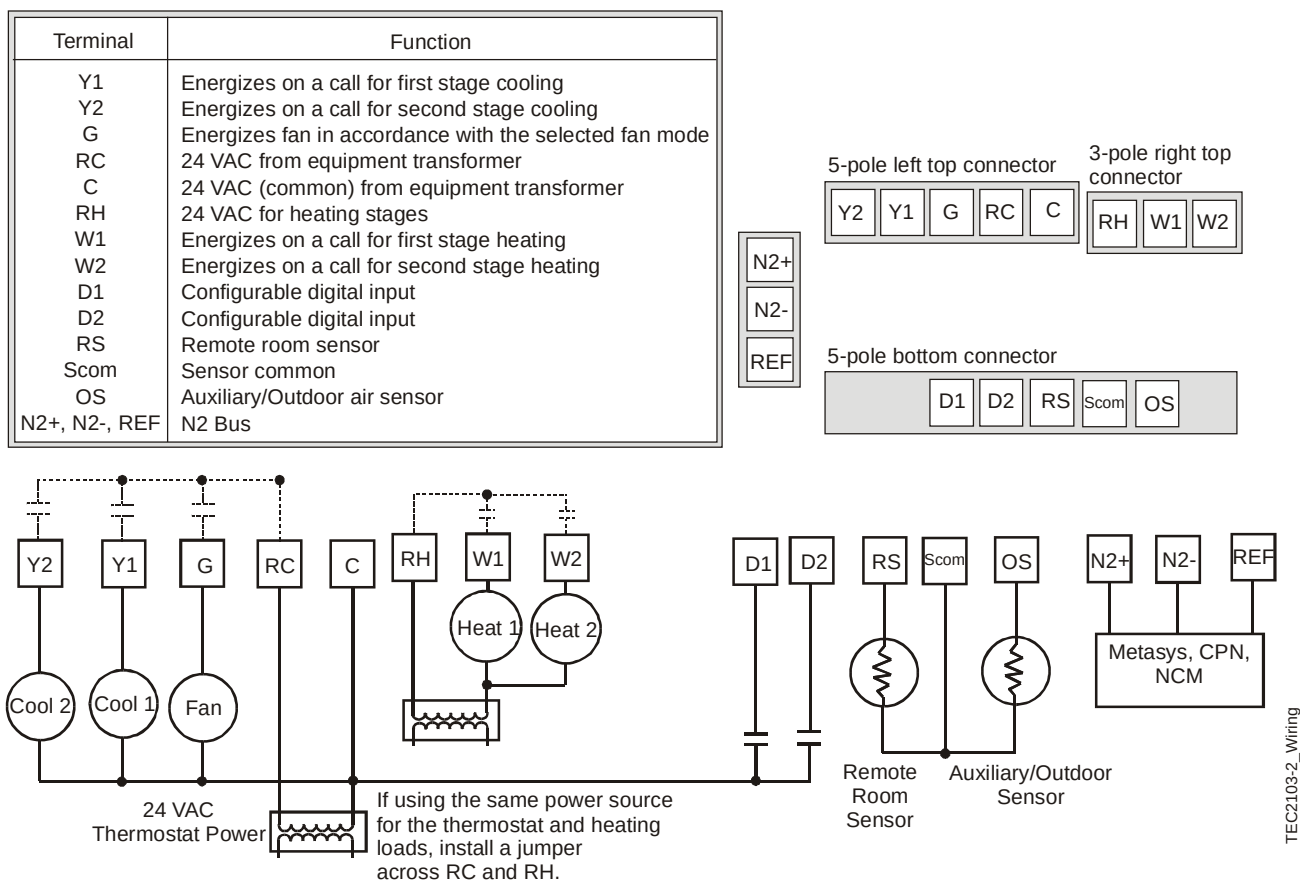

Figure 5: TEC2103-2 Thermostat Wiring Schematic
1. Strip each wire 1/4 in. (6.35 mm) and connect to the appropriate terminal according to the TEC2103-2 thermostat wiring diagram (Figure 5).
- Auxiliary Temperature (Displays outdoor or other auxiliary temperatures. Requires the sensor to be wired to the Auxiliary/Outdoor Air Sensor terminal OS [Figure 5]). The maximum temperature displayed is 122°F (50°C). The actual temperature may be above this point.